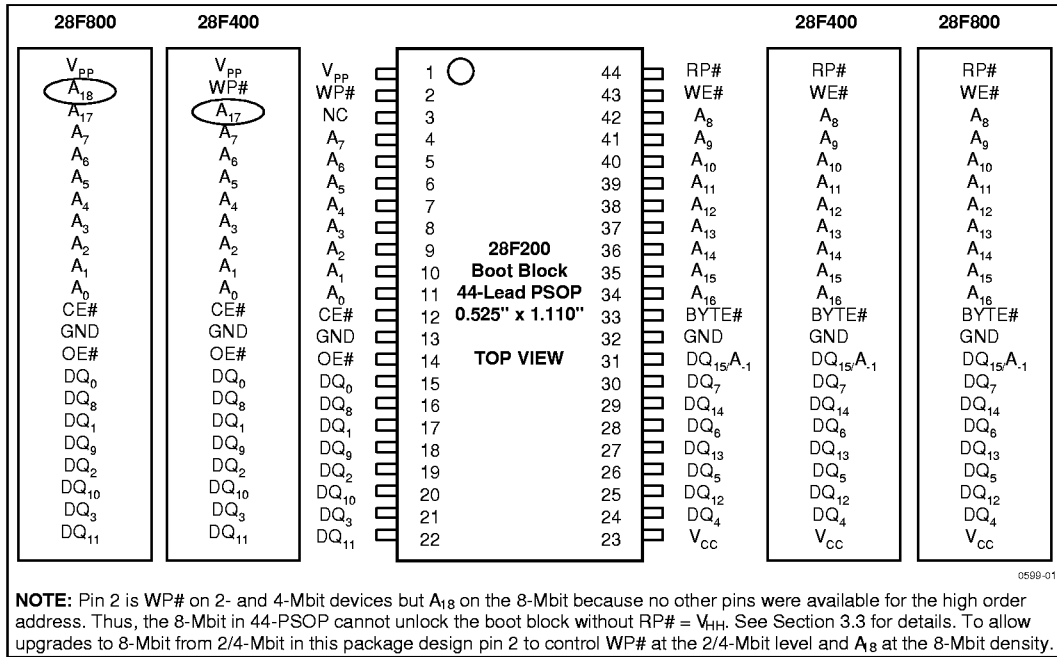
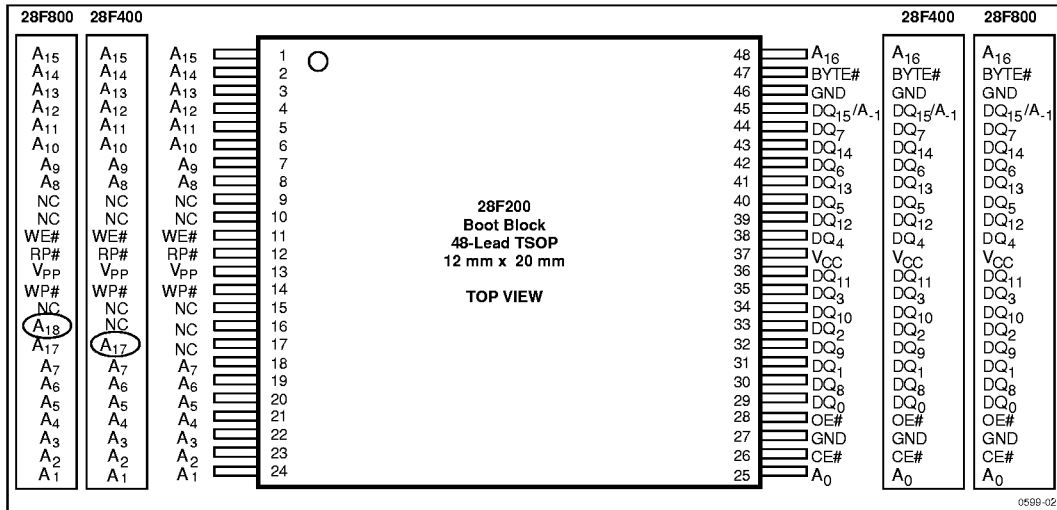

Figure 1. 44-Lead PSOP Pinout Diagram
Figure 2. 48-Lead TSOP Pinout Diagram
-002	Minor changes throughout document. Section 3.1.5 and Figure 14 redone to clarify program/erase operation abort. Information added to Table 2, Figure 1, and Section 3.3 to clarify WP# on 8-Mbit, 44-PSOP. Read and Write Waveforms changed to numbered format. Typical numbers removed from DC Characteristics and Erase/Program Timings.
-003	Minor text changes throughout document. Figure 1, 44-PSOP pinout: mistake on pin 3 on 2-Mbit pinout corrected from A 17 to NC. Specs $t_{EHQZ}$ and $t_{GHQZ}$ improved. Explanations of program/erase abort commands reworked in Table 6, Command Codes.
These 5 Volt Boot Block Flash memory products are available in the 44-lead PSOP (Plastic Small Outline Package), which is ROM/EEPROM-compatible, and the 48-lead TSOP (Thin Small Outline Package, 1.2 mm thick) as shown in Figure 1, and 2, respectively.
Intel® 5 Volt Boot Block Flash architecture provides upgrade paths in each package pinout up to the 8-Mbit density. The 44-lead PSOP pinout follows the industry-standard ROM/EPROM pinout, as shown in Figure 1. Designs with space concerns should consider the 48-lead pinout shown in Figure 2. Applications using an 8-bit bus can use the 40-lead TSOP, which is available for the 4-Mbit device only.